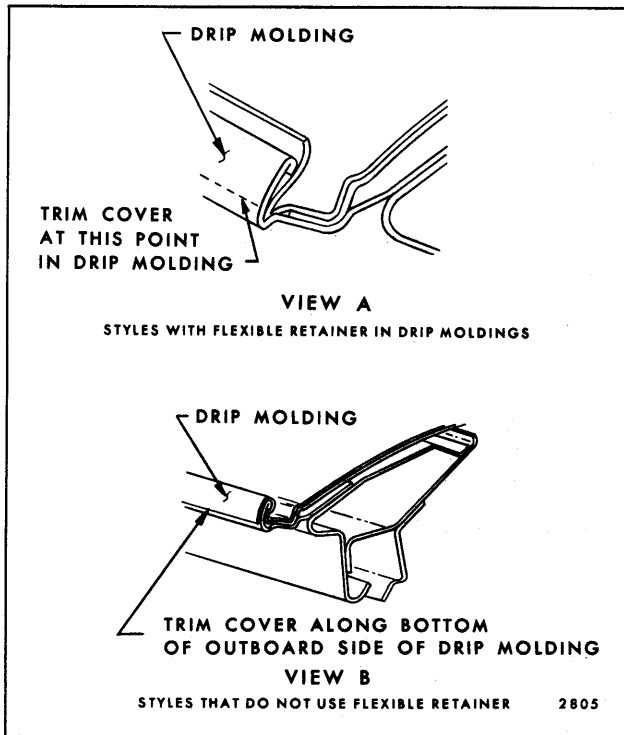

Fig. 12-4—Trimming Fabric Roof Cover at Drip Molding Area
22. Trim cover just under lip on inside of drip molding (View "A", Fig. 12-4). When trimming cover, tool J-21092 or other suitable knife may be used (Fig. 12-5).
- a. On "B-47" styles and all "A" bodies except "69" and "80" styles, cement cover into and around outboard side of drip molding as shown in View B, Figure 12-4, and trim cover along outside bottom edge of molding.
- b. On all other styles, cement cover into drip molding and trim cover just under lip on inside of drip molding (View "A", Fig. 12-4). When trimming cover, tool J-21092 or other suitable knife may be used (Fig. 12-5).